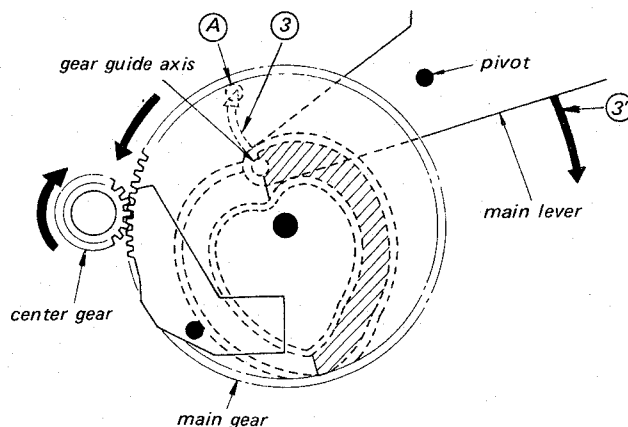
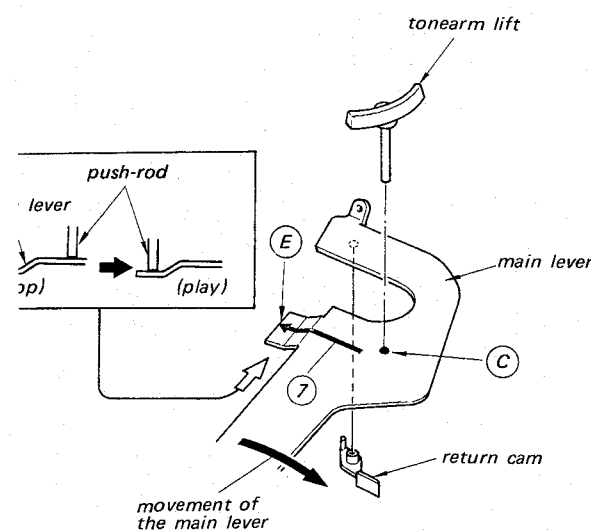
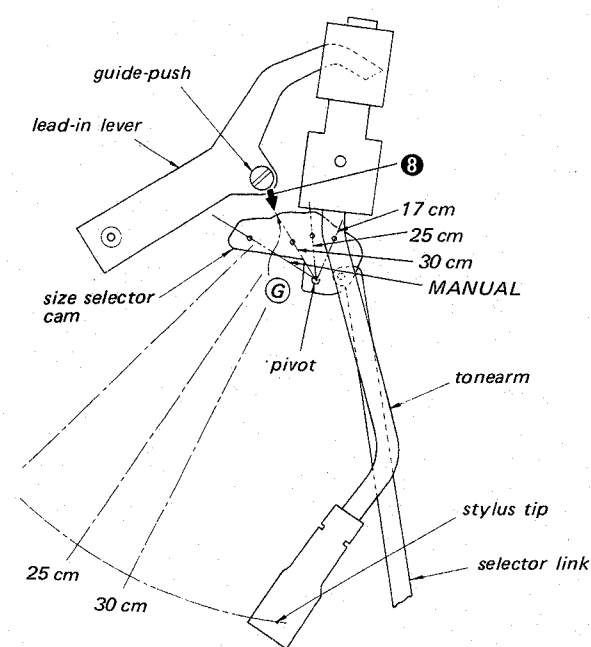
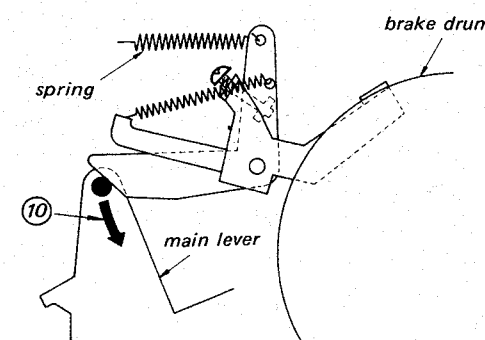

Fig. 1-3.
Fig. 1-5.
Fig. 1-6.
Fig. 1-8.
4. The gear guide axis at the tip of the main lever, is guided by the shaded section of the heart-shaped cam groove located on the main gear, moving across in a curved path ③ to position ①. Therefore, the main lever moves in the direction of arrow ③. (See Fig. 1-3.)
The central axis of the push rod resting against the tonearm lifter is on the position ③ in STOP mode. (See Fig. 1-5.)
During lead-in, the main lever moves across in the direction of arrow ③' (See Fig. 1-3), resulting in the position of the central axis of the push rod moving across as shown by arrow ⑦. (Fig. 1-5.)
3. The guide-push stops at the position determined by the surface ⑥ (Fig. 1-6) of the record size selector cam. The push rod consequently descends to the lower position ⑤ of the main lever (Fig. 1-5), resulting in the tonearm lowering onto the surface of the record for the commencement of play.
4. The position where the tonearm lowers (30 cm, 25 cm, 17 cm) is determined by the position of the record size selector cam shown in Fig. 1-6. The guide-push of the lead-in lever moves across in direction of arrow ⑧ during lead-in, and meets the size selector cam at surface ⑥ (for the 30 cm example shown), thus determining the drop point at the outer edge of a 30 cm record. That is, this position determines the distance moved by the lead-in lever, which consequently determines the rotational angle of the brake drum (and of the tonearm as well). With the record size selector knob set to the MANUAL position, the lead-in lever moves a little and the tonearm does not move.
5. The return cam attached to the main lever (see Fig. 1-5) pushes against the pin of the brake drum, forcing the tonearm to move back (horizontally) towards the arm rest.
6. The return operation is completed when the tonearm arrives back at the arm rest. The main gear comes to a stop in the position shown in Fig. 1-3.
Furthermore, a spring is also employed to exert pressure upon the main lever in the direction of arrow ⑩ (see Fig. 1-8), thus keeping the main gear in the stop position. (See Fig. 1-3.)